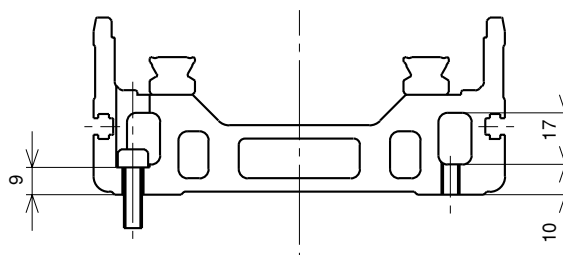

Fig. 8-1
- When using method A, determine the nominal length so that the length of the screw from the robot bottom is 9mm or more, 27mm or less. (Refer to right side of Fig. 8-1.)
- When using method B, if the installation base is made of steel, secure 1D or more (6mm or more for M6) for the installation base's screw fitting length. When made of aluminum, secure 1.5D or more (9mm or more for M6). (Refer to left side of Fig. 8-1.)